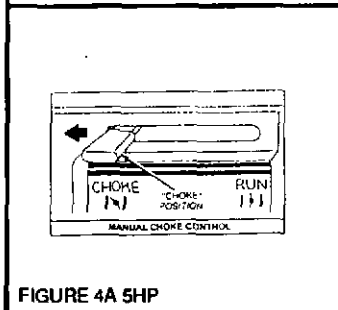

FIGURE 4A 5HP
4. Adjust the carburetor choke as necessary for temperature conditions. Cold starting requires a full choke (Fig. 4A, 4B or 4C).